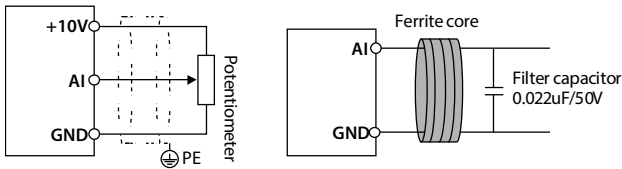

Figure 4-7 AI connection
The AI is voltage input and the range is 0 - 10V, as shown in Figure 4-7.
2. In serious interference occasions, the analog input signal should add filter capacitor and ferrite core, the cable is wound 2-3 times in the same direction on the ferrite ring, as shown in Figure 4-7.